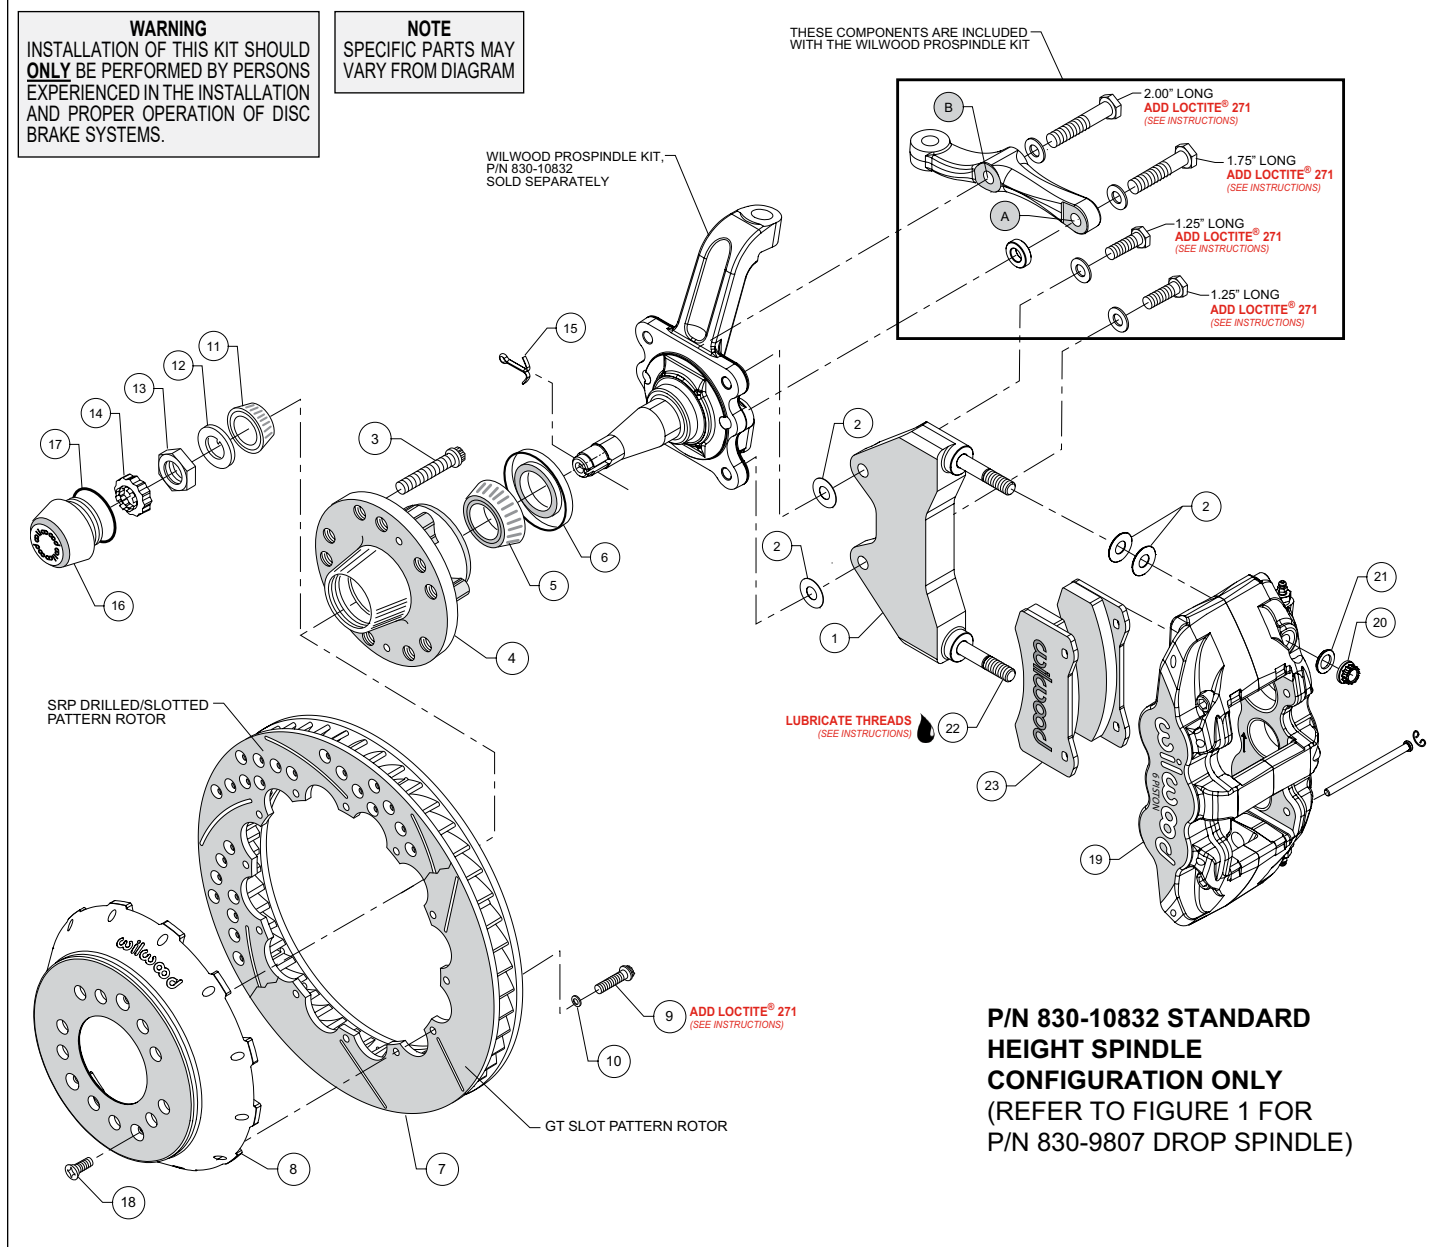

Figure 2. Installation Configuration For Standard Height Spindle, P/N 830-10832
- Orient the bracket as shown in Figure 2 and Photo 2. Install using 1.25" long bolts and .06" thick washers (from ProSpindle kit), and one .030" thick shim (2) on each bolt between the bracket and spindle, Figure 2. Temporarily tighten mounting bolts. **NOTE:** The bracket must fit squarely against the mounting points on the spindle. Inspect for interference from casting irregularities, machining ridges, burrs, etc. Later, after the caliper alignment has been checked, the mount bolts will be secured using red Loctite® 271.
- Orient the steering arm, and identify the hole marked 'A', as shown in Figure 2. Install using 1.75" long bolt, .06" thick washer, and .30" thick spacer (all from ProSpindle kit), Figure 2.
- Finish attaching the steering arm through the hole marked 'B', as shown in Figure 2. Install using 2.00" long bolt and .06" thick washer (from ProSpindle kit), Figure 2.